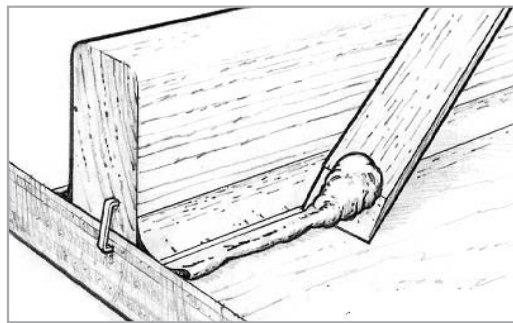

Figure 8-13 Clean up the excess epoxy outside of the fillet margin.
3. Clean up the remaining excess material outside of the margin by using a sharpened mixing stick or a putty knife (*Figure 8-13*). Fiberglass cloth or tape may be applied over the fillet area before the fillet has cured (or after the fillet is cured and sanded).